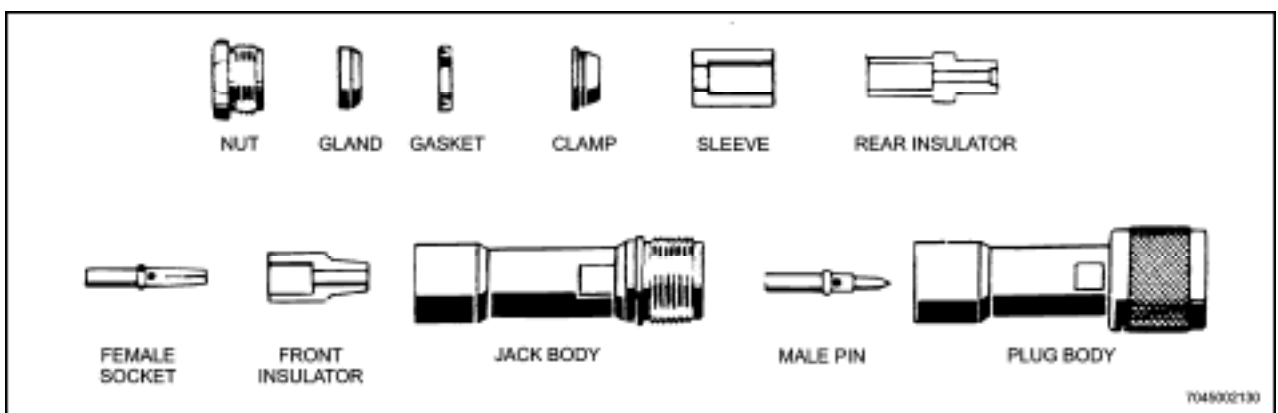

Figure 12-24 HN Connectors with Captivated Contacts - Exploded View
- b. **Captivated Contact Version** Consists of a plug or jack body assembled to coaxial cable with nut, gland, gasket, clamp, sleeve, and front and rear insulators (see Figure 12-24). Plug UG-1213/U and jack UG-1214/U are typical of this version.
- a. Disassemble nut, gland, gasket, clamp, sleeve, and front and rear insulators front plug or jack body. (See Figure 12-24.)